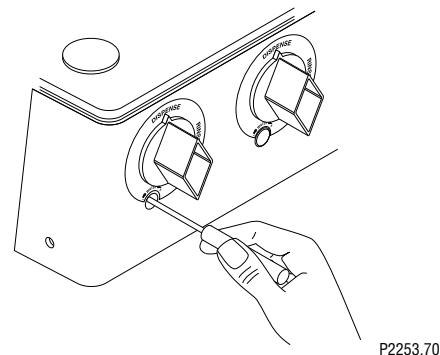

FIG 8 Adjusting Water Flow
6. Adjust the water flow rate Fig 8, (clockwise to increase flow rate; counterclockwise to decrease flow rate) to the corresponding product mix ratio as follows: